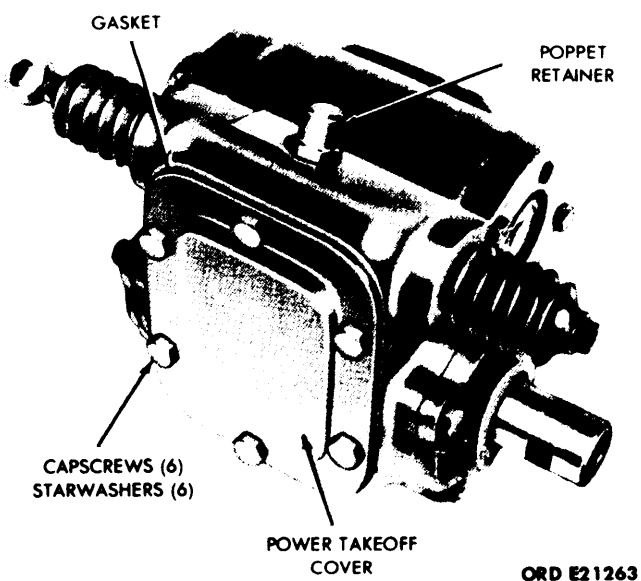

Figure 5-3. Removal of Power Takeoff Cover, Poppet Retainer, Poppet Spring and Ball.
(1) Remove the six capscrews and star washers securing the power takeoff cover to the carrier. (See fig. 5-3.) Remove the cover and the cover gasket.
(2) Remove the poppet retainer (fig. 5-3). Turn the power takeoff on the side and remove the poppet spring and ball.
- k. Power takeoff cover, poppet retainer, and poppet spring and ball. (See fig. 5-3.)
- (1) Quiet operation.
- (2) Smooth and positive shifting.
- (3) Check for lubricant leaks.